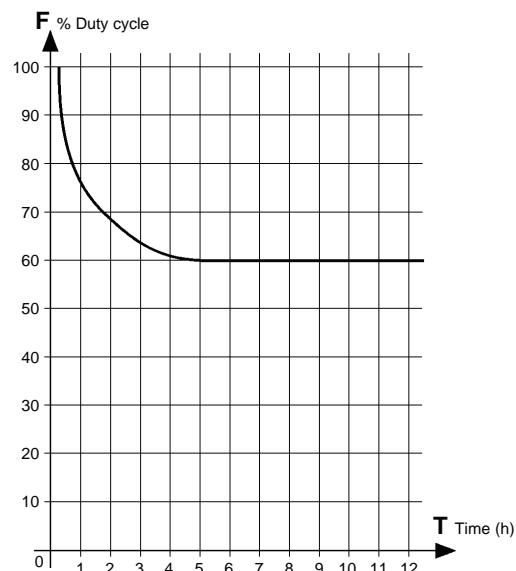

Fig. 2
1.1 Maximum duty cycle curve (Fig. 2)